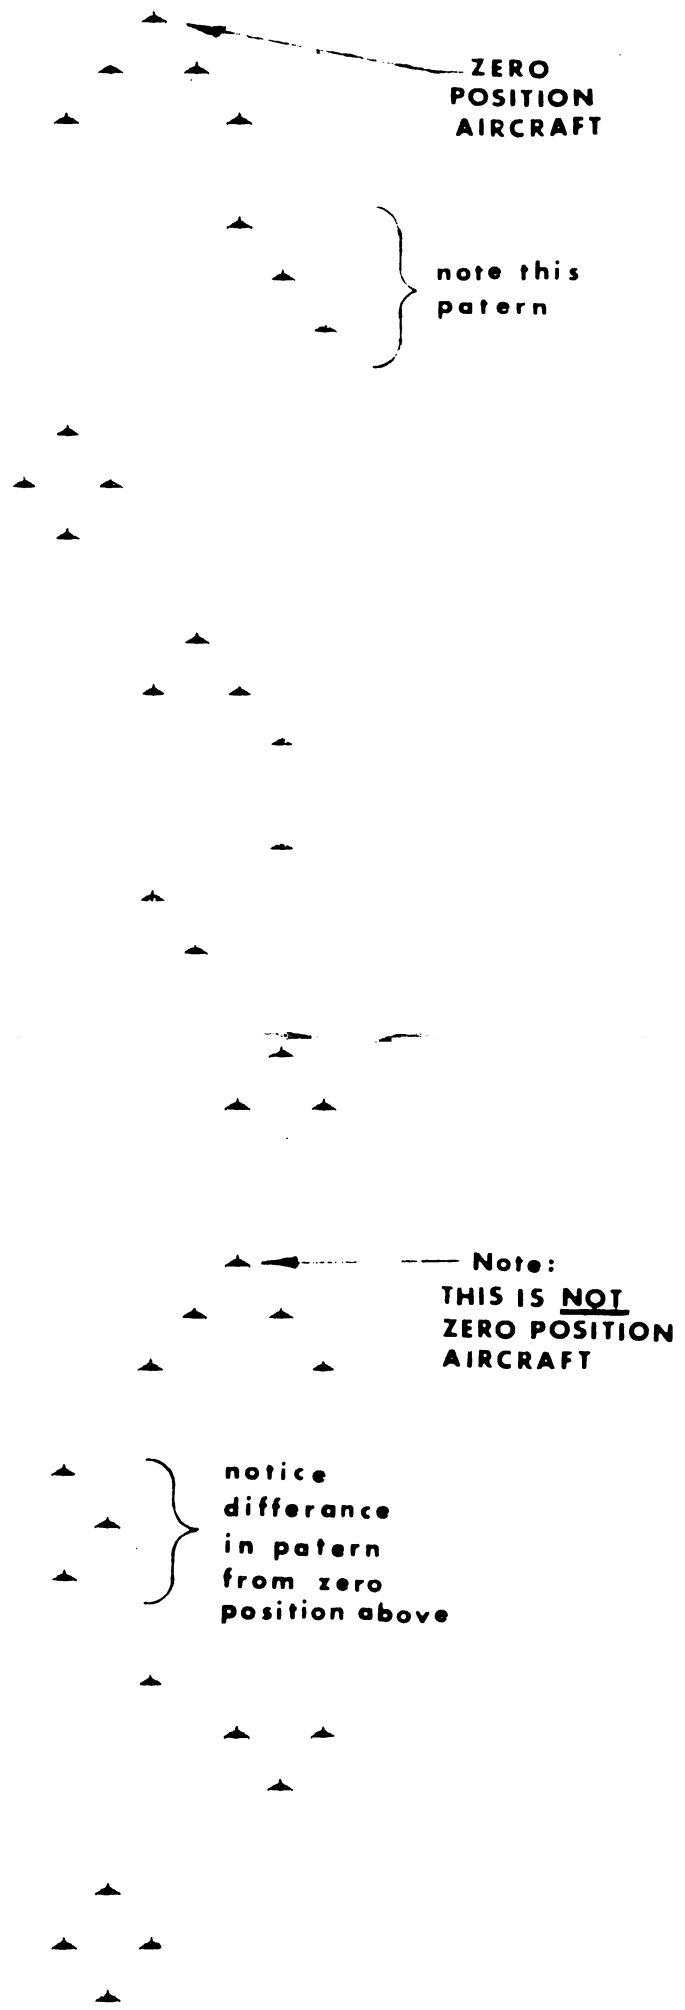

Fig. 2
2. Start game and observe images on screen. When zero position aircraft (as indicated in Figure 2) begins approaching zero position alignment darts on screen (see Figure 4), place projector service switch in "Off" position.